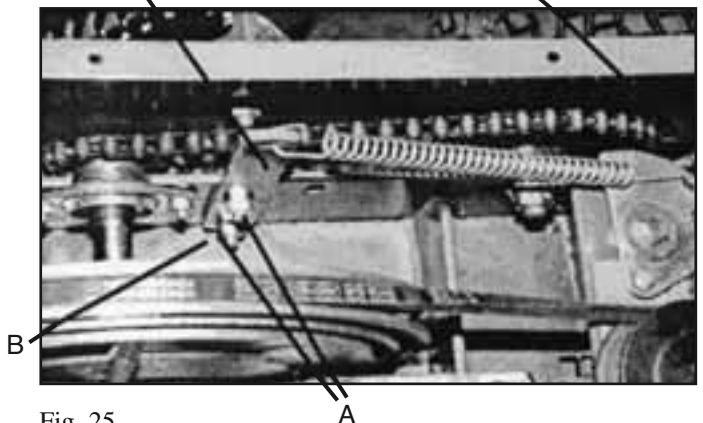

Fig. 25
1. Loosen the two nuts (A) securing the spring plate. *Fig. 25*
2. Remove the top bolt (B) from the spring plate while holding the spring plate and slowly release the tension on the spring and disengage the spring finger from rack assembly by pressing outwards. *Fig. 25*